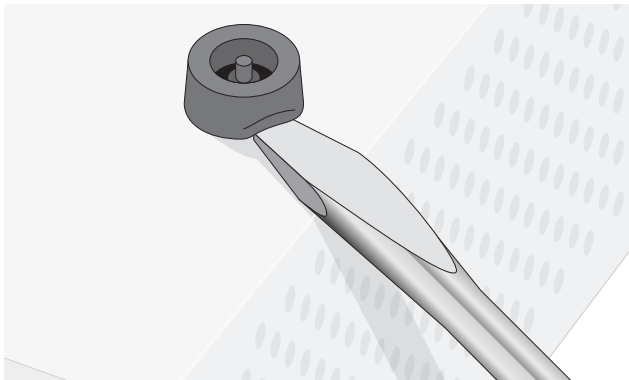

Figure 2. Removing the Rubber Feet
- b. Use a flat-head screwdriver to remove the snap-on feet from the bottom of the power supply (see Figure 2).